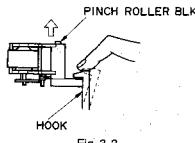

Fig. 3-2
1) Pull out the PINCH ROLLER BLK while releasing the HOOK as shown Fig. 3-2.